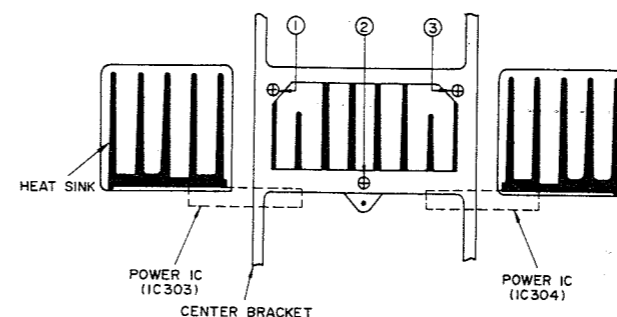

Fig. 5
2. Remove the 3 setscrews (① ~ ③ in Fig. 5) used to fasten the heat sink from the center bracket.